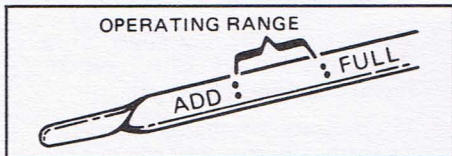

Figure 3 - Oil dipstick
2. Add oil if needed, to keep the oil level above the "ADD" line. See Figure 3. Avoid overfilling the engine since this may cause engine damage. Push the dipstick back down all the way after taking the reading.